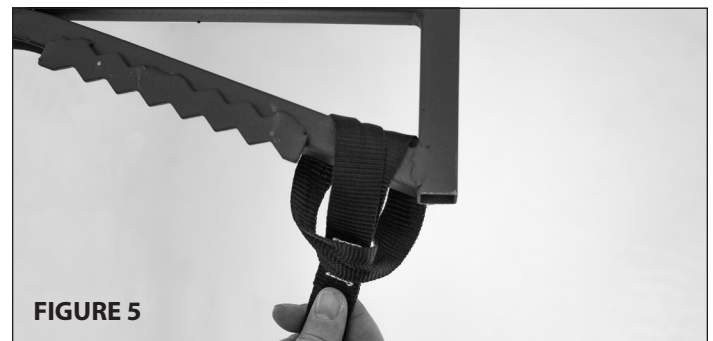
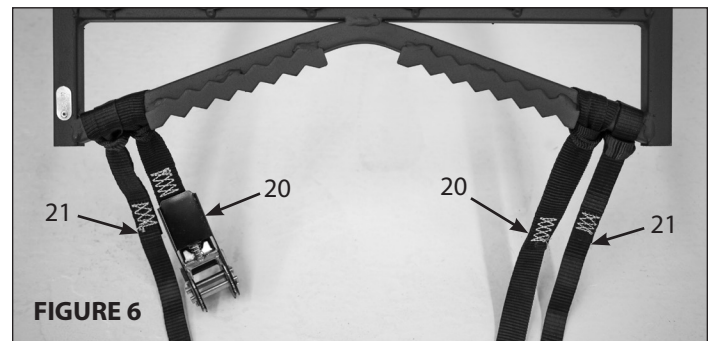

FIGURE 5
FIGURE 6
9. Preassemble 16' stabilizer straps (21) and 6' ratchet strap (20) as follows:
- a. Attach the two long ends of the 16' stabilizer (criss-cross) straps (21) to each side of the rear frame tube on each side of the seat platform tree blade. These long stabilizer straps should be attached by pulling the free end of the strap through the loop end of the strap to create a cinch knot around the frame tube. **SEE FIGURE 5**
- b. To aid in the ease of installation, pre-attach each end of the 6' ratchet strap (20) to each side of the rear frame tube, just inside of the 16' stabilizer straps (21) on both sides of the seat platform tree blade. Use the same method as above. **SEE FIGURE 5.** This way each end of the main ratchet strap is pre-attached before the stand is lifted from the ground. **SEE FIGURE 6** showing all four ends attached.